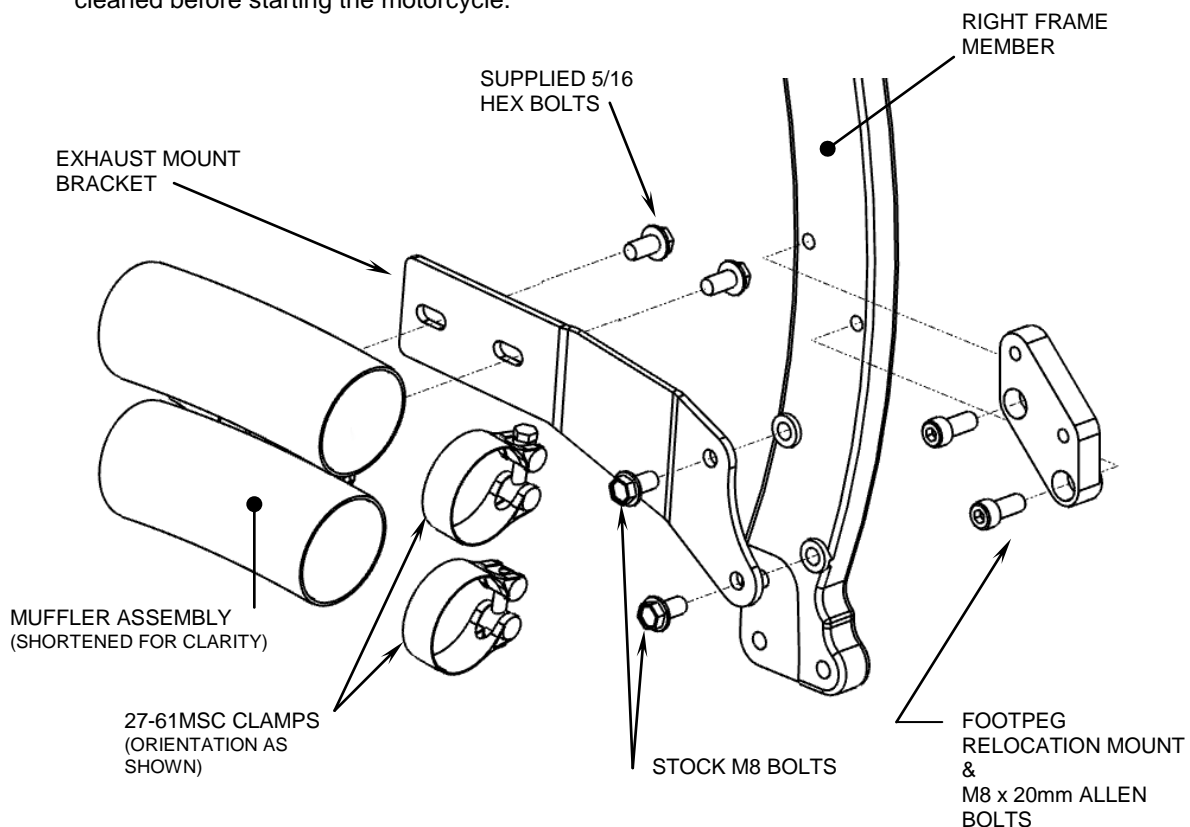

FIGURE 1
3. Remove stock right side passenger footpeg/floorboard and replace with footpeg relocation mount using the supplied M8 allen bolts. See Figure 1. Using the stock footpeg hardware mount stock footpeg to footpeg relocation mount.
4. Remove the exhaust mount bracket from the box and mount it to the motorcycle frame using the stock bolts retained in Step 1, but **DO NOT TIGHTEN** at this time, see Figure 1.
6. Remove the muffler assembly from the box and slide two supplied 27 - 61MSC clamps onto the muffler tubes. The clamps should be orientated as shown in Figure 1. Slide the muffler onto the head pipes by tapping it onto the head pipes with your hand as you push the mufflers forward making sure the muffler slides as far forward as possible. Secure the muffler assembly to the exhaust mount bracket using the supplied 5/16 hex bolts but **DO NOT TIGHTEN**.